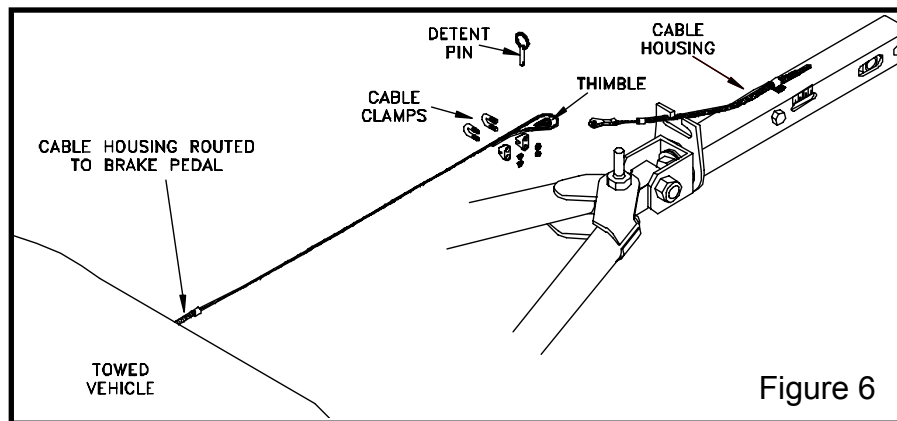

Figure 6
7. Attach the cable thimble into the cable fork on the AutoStop™ receiver cable assembly with the detent pin. (Figure 6) Run the loose end of the brake cable through the fork and thimble, double it back on itself and secure it with the two cable clamps. Place the first clamp as close as possible to the thimble and the second cable clamp about four (4) inches from the first. Before tightening the clamps adjust the cable length so there is about four (4) inches of vertical play in the cable before the towed vehicle's braking lights come on.